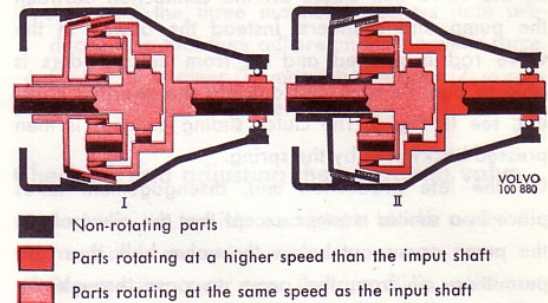

Fig. 2. Working principle of the overdrive
The working principle of the overdrive is as follows: In the direct drive position the clutch sliding member (43) is in position I, Fig. 2. When travelling forwards the power is transmitted from the gearbox mainshaft (59) through the uni-directional clutch (33, 34) to the output shaft (25). When reversing or when the engine acts as a brake, the torque is transmitted through the clutch sliding member. This is possible since the clutch sliding member is pressed against the tapered part of the output shaft by means of four clutch return springs (54). In the overdrive position the clutch sliding member is pressed against the brake ring (41), see II, Fig. 2, thereby locking the sunwheel. This means that the planet gears (38) are forced to rotate around the sunwheel (46). As a result of this, the output shaft will rotate at a higher speed than the mainshaft.